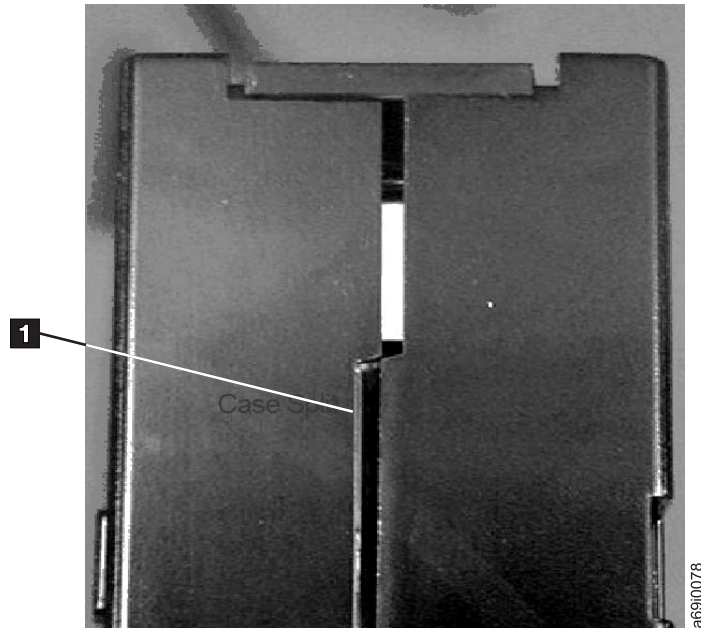
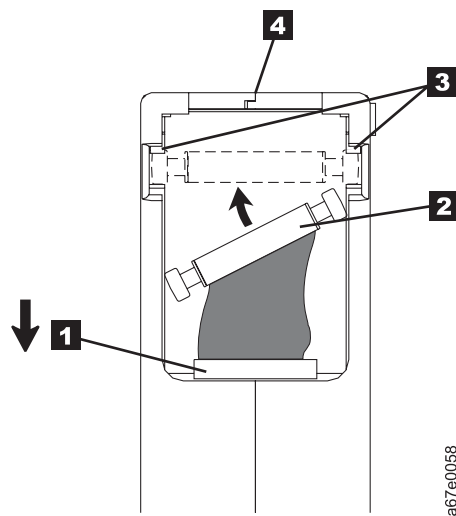

Figure 5-7. Checking for gaps in the seams of a cartridge
Figure 5-9. Placing the dislodged leader pin into the correct position. The cartridge door is open to show the leader pin.
- Inspect the rear of the cartridge (the part that loads first into the tape load compartment) and ensure that there are no gaps in the seam of the cartridge case (see **1** in Figure 5-7 on page 5-10 and **4** in Figure 5-9 on page 5-12). If there are gaps in the seam (see Figure 5-7 on page 5-10), the leader pin may be dislodged. Go to “Repositioning or Reattaching a Leader Pin” on page 5-11.
Example: Split Cartridge Case (see Figure 5-7)
1. Slide open the cartridge door (**1** in Figure 5-9) and locate the leader pin (**2** (you may need to shake the cartridge gently to roll the pin toward the door).